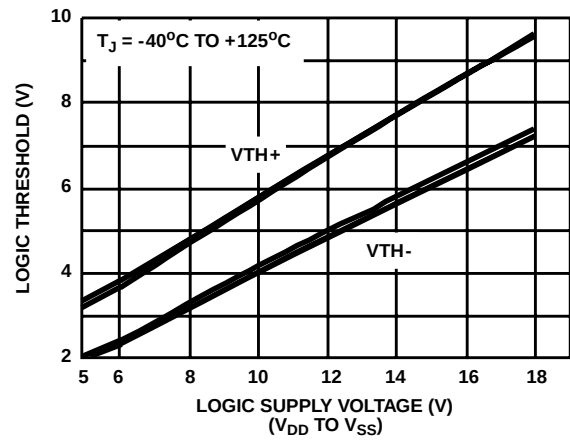

FIGURE 8. INPUT LOGIC THRESHOLD vs SUPPLY VOLTS
2. See Figure 8 for logic supply voltages other than $15.0V$.